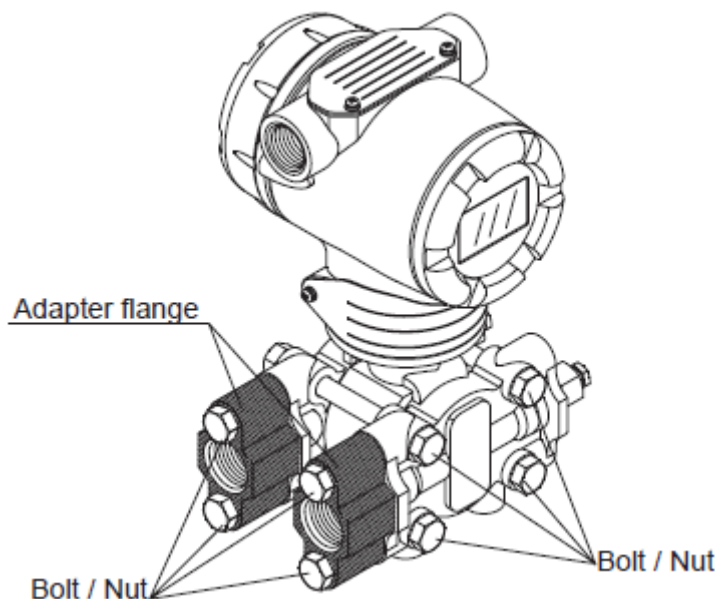

Figure 21. Center Body Cover Fixing Bolts
1. Remove the four sets of bolts & nuts, shown in Figure 21.